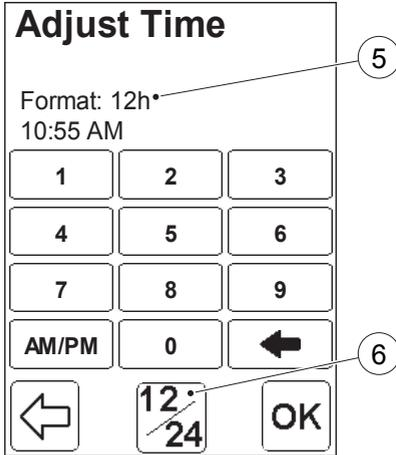

FIGURE 4-39
b) Enter the current date with the Digit buttons (2)
c) Press the Confirm button (4). *FIGURE 4-39* will be displayed